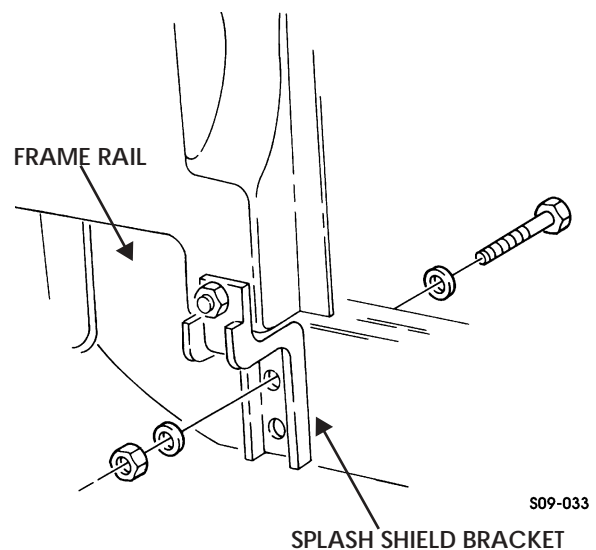

Figure 9-45: Splash Shield
6. Remove four locknuts, washers, capscrews, and washers securing two splash shield brackets to frame rails. Discard locknuts (Figure 9-45).
6. Install four washers, capscrews, washers, locknuts, and two splash shield brackets on frame rails. Tighten locknuts to 90 lb-ft (122 N•m) (Figure 9-45).